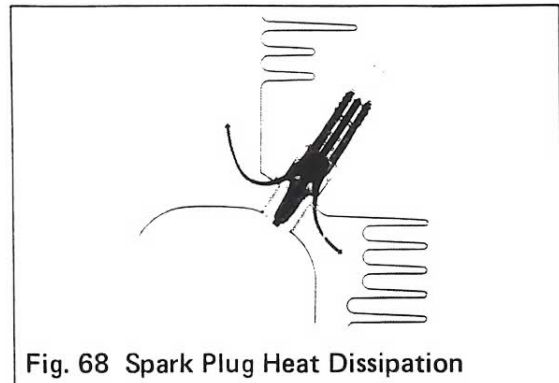
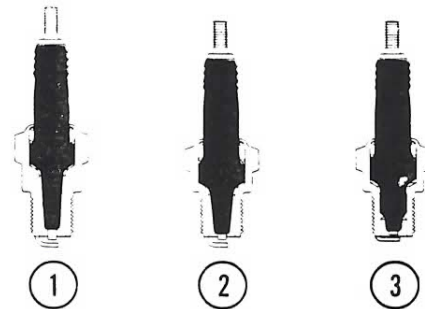

Fig. 68 Spark Plug Heat Dissipation
Fig. 69 Spark Plug Insulator Nose Length and Heat Range
*Heat range* refers to the spark plug's ability to transfer heat from the center electrode's firing tip, through the insulator, through the spark plug shell, to the cylinder head where heat is dissipated (Fig. 68). The ability of the spark plug to transfer heat is controlled by the exposed length of the insulator nose (Fig. 69). When the exposed insulator nose is relatively long, heat from the center electrode's firing tip must travel a relatively long path to reach the spark plug shell and cylinder head. Conversely, when the exposed insulator nose is shorter, heat has a shorter path to follow and is dissipated more easily.